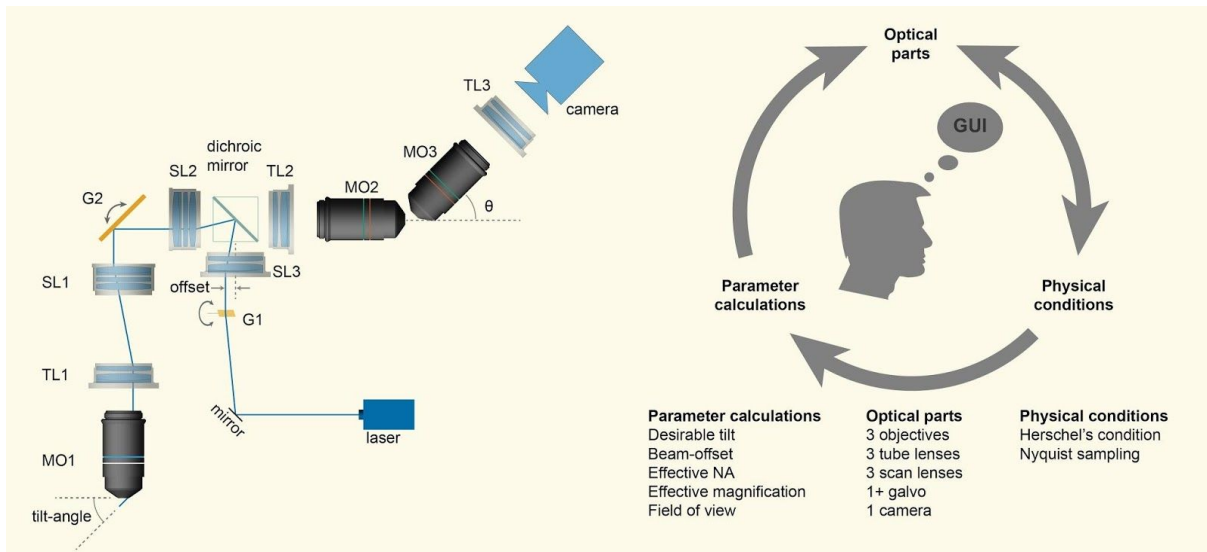

Fig. 1: Typical configuration of a single objective light-sheet microscope (left). A GUI may simplify the microscope design process (right).
Single (front facing) objective based light-sheet microscope [Fig. 1] is a complicated optical instrument to design and assemble [1-2]. The microscope design is involved as there are multiple optical parts to be chosen, multiple physical conditions to be satisfied, and multiple parameters to be calculated [Fig. 1]. Here, we present a simple GUI (graphical user interface) to empower the users to design their own microscope configuration and evaluate their theoretical feasibility before investing in buying parts and assembling the microscope.
2. Enter tube-lenses TL1 and TL2 and scan-lenses SL1 and SL2 focal length values and click the 2nd button to register these values. Figure 1 specifies the position of each of these components. They determine whether Herschel condition is satisfied to meet minimal aberration imaging. The GUI will flag the condition as unsatisfied when the error in TL and SL focal length selection is more than 5%. Modify the TL and SL focal lengths to satisfy the Herschel condition. If it is not possible to satisfy this condition, one may proceed further with the selection but many of the calculated parameters would become unreliable.